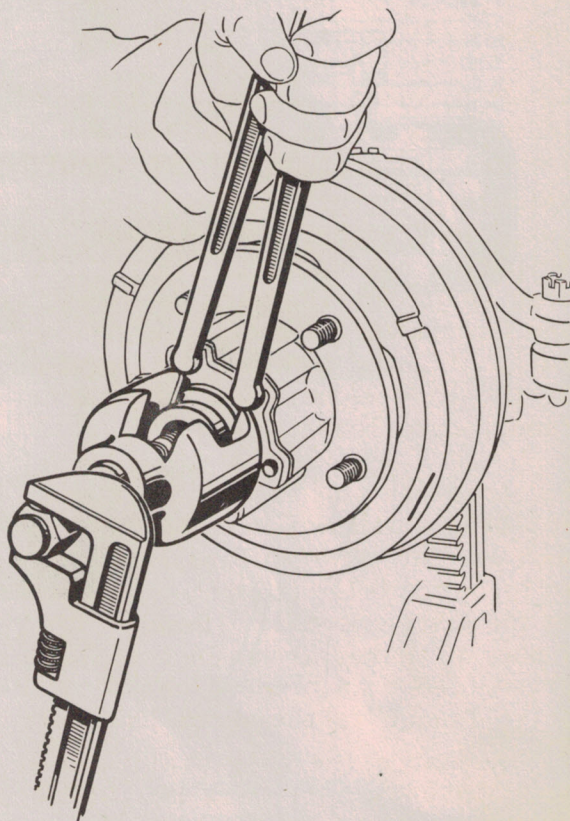

Fig. 34
6. Use a puller as illustrated in Figure 34 to remove the axle flange.